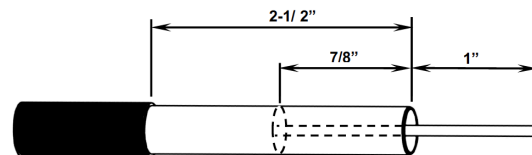

Fig. 2
1. Cut ends of cable square. If cable has outer jacket, remove jacket to expose cable outer conductor approximately two and one-half inches, as shown in Figure 2. If cable has a flooding compound, remove flooding compound from cable outer conductor using an approved cleaner, in accordance with the cable manufacturer recommendations.
2. Core cable and expose the center conductor using a commercially available core / strip tool as shown in Figure 2.